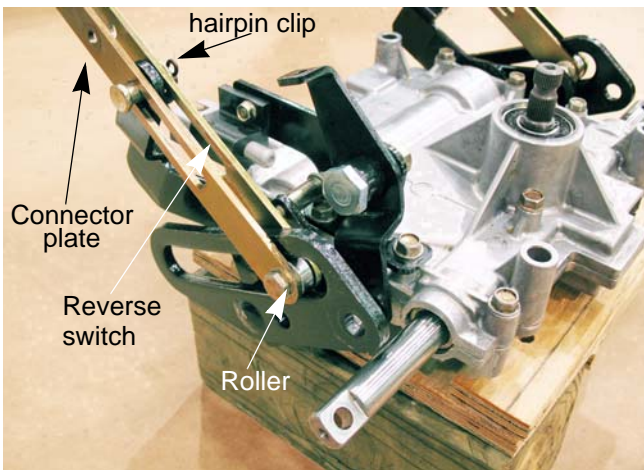

Figure 6.16
- 13a. Remove the cotter pins, washers and clevis pins in the linkages. See Figure 6.16.